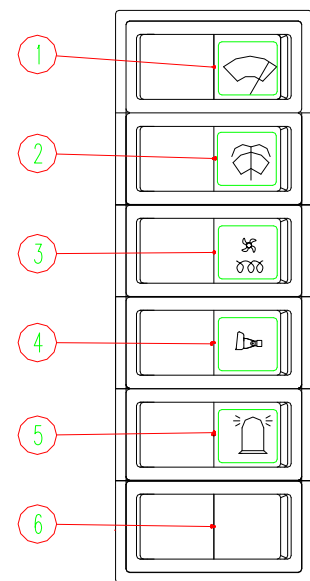

FIG. 2-7
**Figure 2-7 is the wane control panel of closed cabin, the simple cabin only applies to 4.**